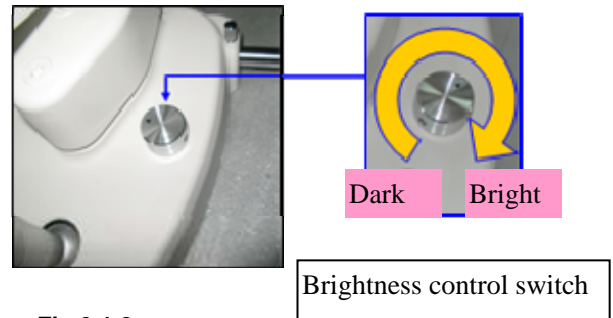

Fig.3.1.3
16. Turn on the main power switch, and the pilot lamp will be lighted. Open the light control knob to examine the brightness. The power supply signals will turn bright when power is connected (Fig.3.1.3).
20. Turn on the light knob (Fig.3.1.3), the light should be from dark to bright.
Switch on the main power switch and set the brightness control switch (Fig.3.1.3) at central part. Turn the slit width control knob (Fig.2.2.3.1) to make the slit width to be 2~3mm.